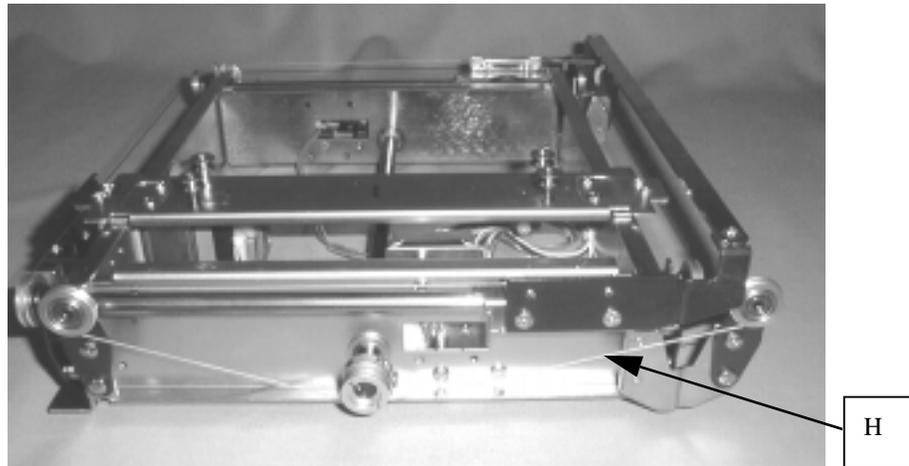

FIGURE 16-9
14. Wind the wire (H) onto the opposite pulley (F) clockwise by six and half turns as shown in Fig.16-9 under the winding condition of the wire onto pulley (F\*) by six and half turns, apply the wire to the wire pulleys (E) in the order of the left and right side, mount the ball(R) to the cut (P), and eliminate the looseness of the wire by wire pulley (E).